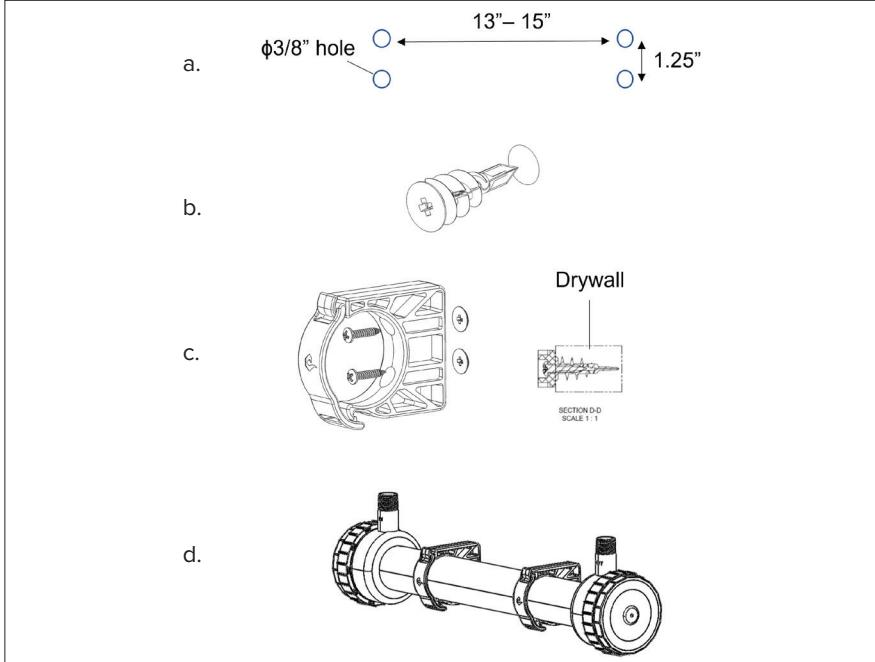

Figure 4: Mounting the Reactor
- a. As shown in **FIGURE 4**, locate the desired location of the reactor, and use 3/8" drill bit size to drill 4 holes (2 holes for each clamp) at the desired points on the wall to mount the clamps.